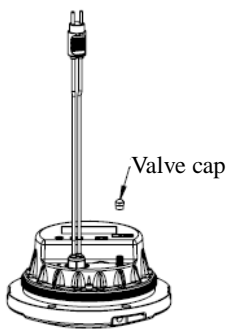

Figure 5-24
- Unscrew the valve cap at the lighting fixture bottom (see Figure 5-24).